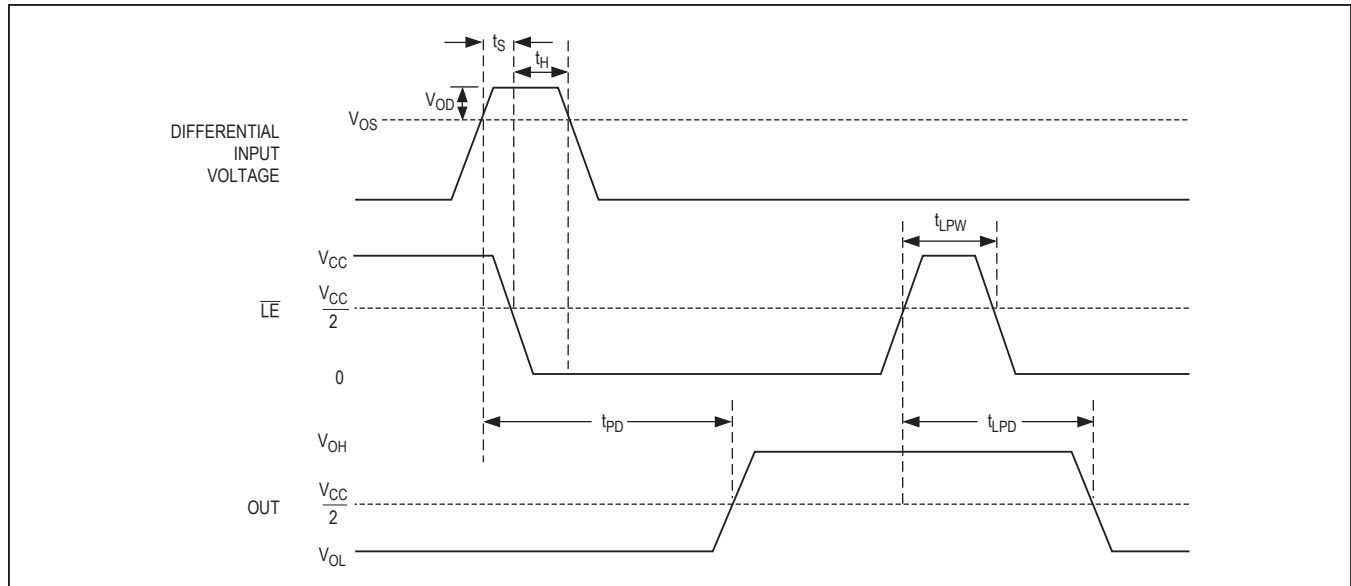

Figure 2. MAX9141 Timing Diagram with Latch Operator
**Note 12:** Applies to the MAX9141 only. Comparator is active with  $\overline{LE}$  driven high and is latched with  $\overline{LE}$  driven low ( $V_{OD} = 10mV$ ). See Figure 2.
The MAX9141 includes an internal latch that allows storage of comparison results. The  $\overline{\text{LE}}$  pin has a high input impedance. If  $\overline{\text{LE}}$  is high, the latch is transparent (i.e., the comparator operates as though the latch is not present). The comparator's output state is latched when  $\overline{\text{LE}}$  is pulled low (Figure 2).